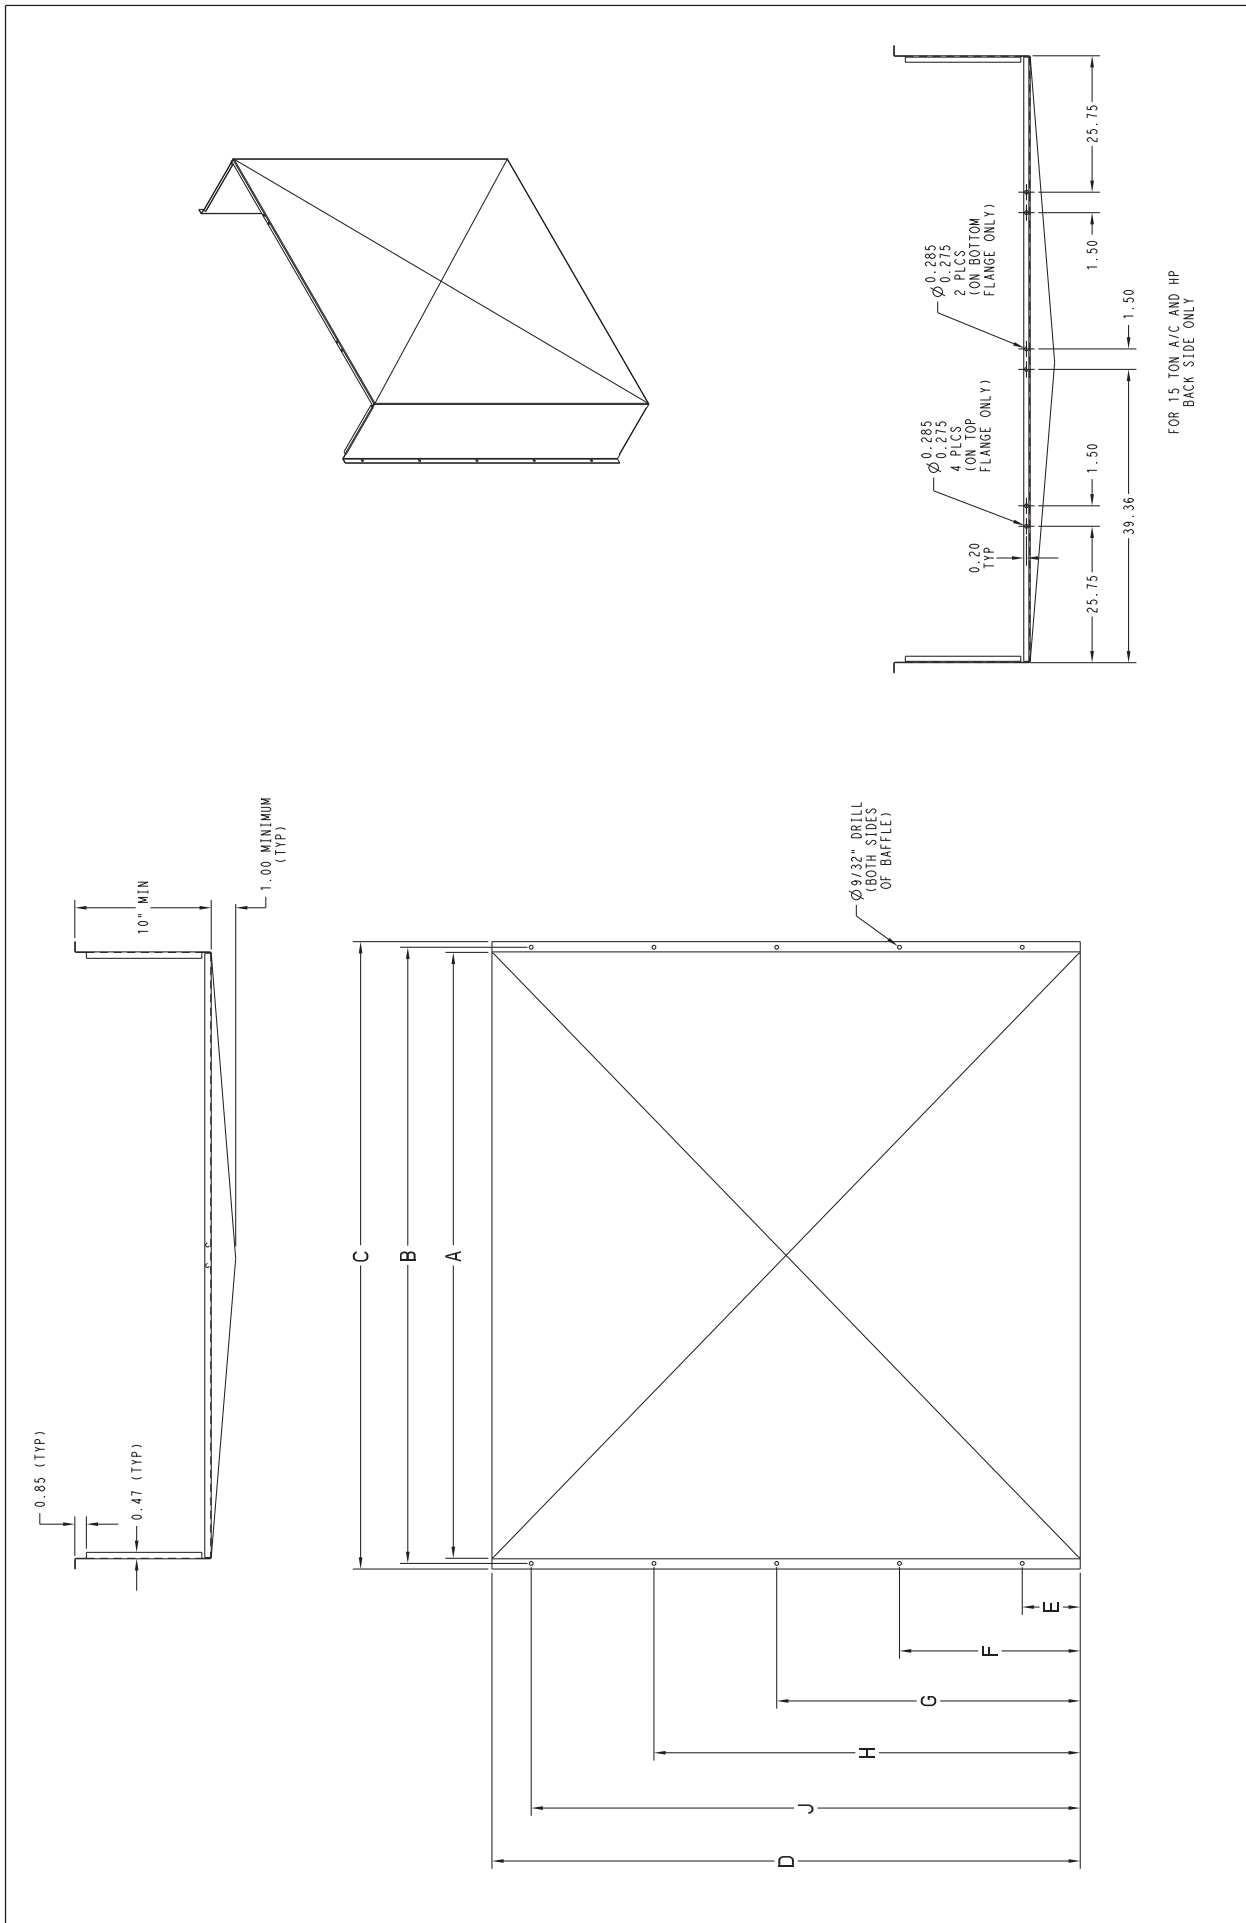
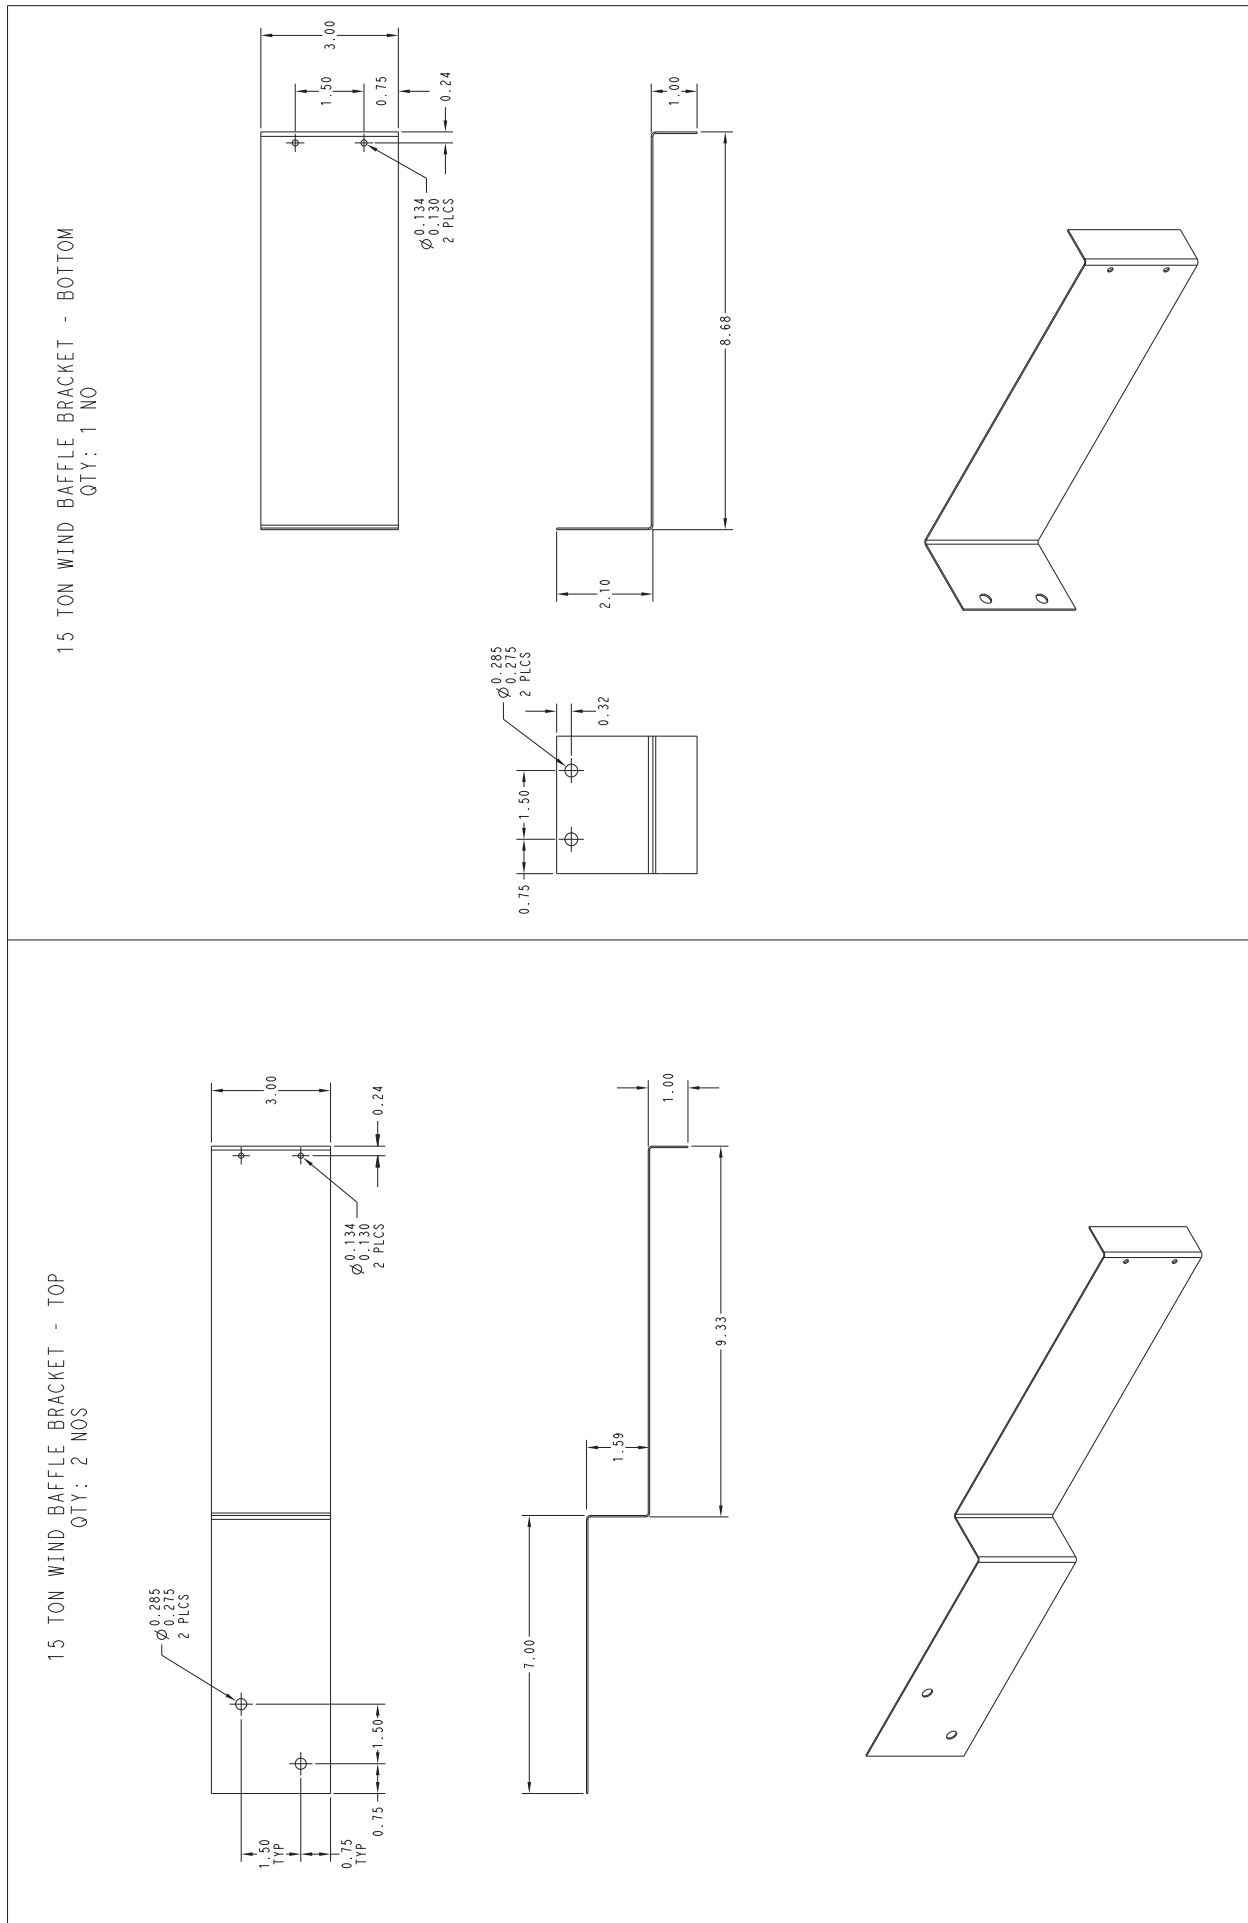

Fig. 46 - Wind Baffles - Fabrication
Fig. 47 - 15 Ton Wind Baffle Brackets - Fabrication
- Use 20-gauge sheet metal to fabricate wind baffles (see Fig. 46 and Table 14) and mounting brackets (see Fig. 47).